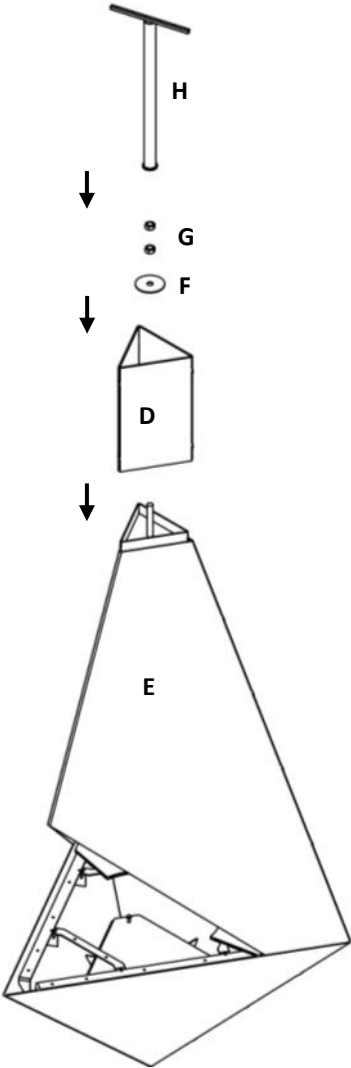

Figure 1— Assembly representation
Assemble the body by placing the tube (D) fitted into the top of the structure (E). Then insert the stainless steel washer (F) and tighten the D + E assembly with two nuts (G) using the wrench (H) (nuts and wrench provided), as shown in figure 1.